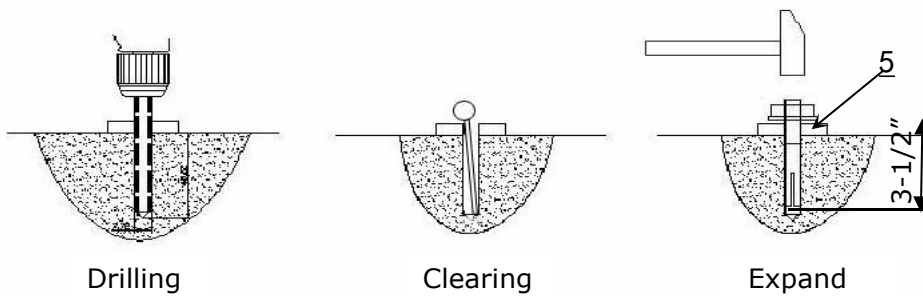

Fig. 18
2. Using the prescribed rotary hammer drill, and drill all the anchor holes and install the anchor bolts, do not tighten the anchor bolts first (See Fig. 18).